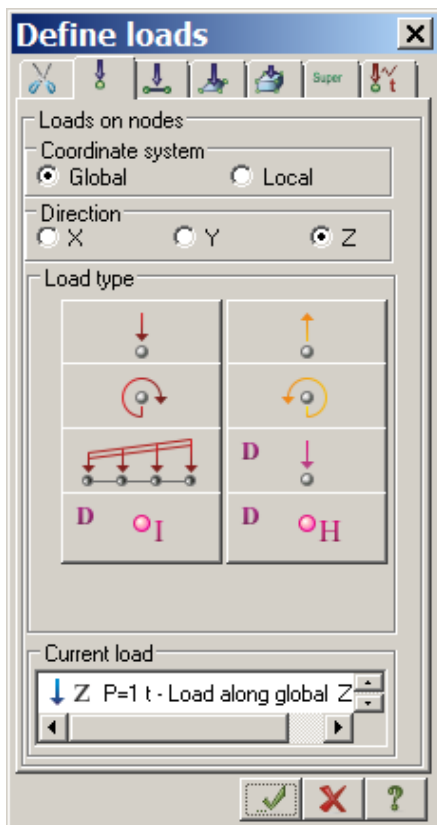

Figure 2.15 Define loads dialog box
- ⇒ In the **Define loads** dialog box (see Fig.2.15), specify **Global** coordinate system and direction along the **Z**-axis (default parameters).
- ⇒ In the **Define loads** dialog box (see Fig.2.15), select **Loads on plates** tab  and specify **Global** coordinate system and direction along the **Z**-axis (default parameters).